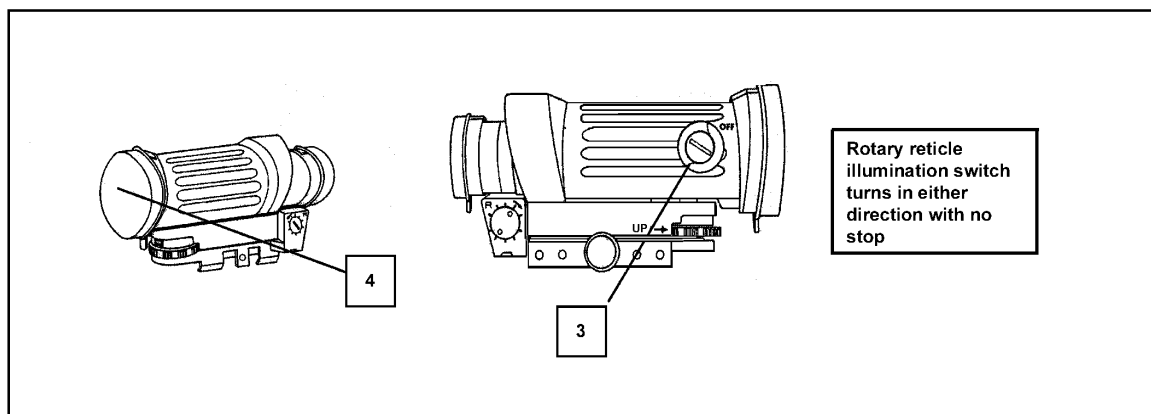

Figure G-37. Rotary reticle illumination switch.
- c. Reinstall the battery cap (1) by holding the rotary reticle illumination switch (3) stationary turning clockwise until snug. Tighten by hand only.
- d. Open the rear lens cover (4). Turn the rotary reticle illumination switch (3) and look through rear lens. Verify that the reticle is illuminated. If not, replace the battery. When finished, turn the rotary switch to the OFF position, and then replace the rear lens cover (Figure G-37).